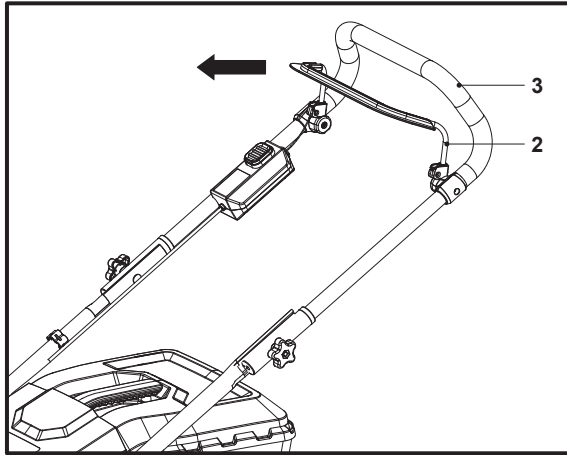

Fig. 17
1. Release the start lever (2) to stop the lawn mower (Fig. 17).